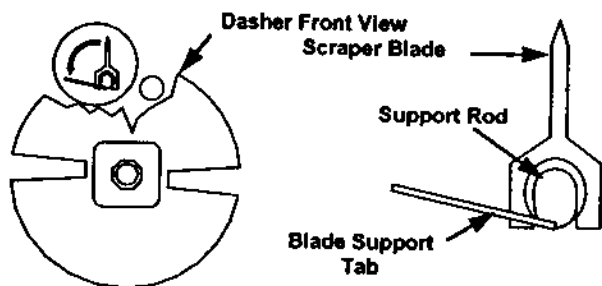
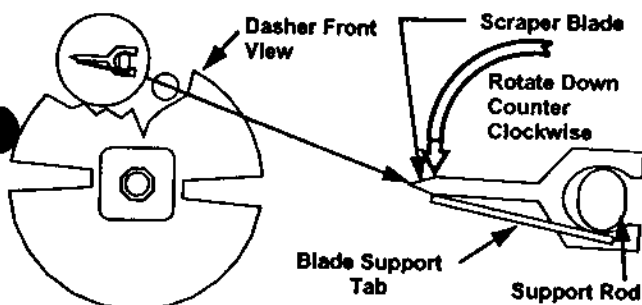

Fig. 26
Fig. 27
- f. Install the scraper blades onto the dasher assembly by holding the blades perpendicular to the tabs (Fig. 26) and then snapping them over the flat area of the support rod. Then rotate the blades downward in a counterclockwise direction as viewed from the front of the dasher (Fig. 27). **BE CERTAIN THAT THE SCRAPER BLADES REST UPON THE DASHER TABS ON ALL DASHERS EXCEPT HIGH CAPACITY MACHINE DASHERS. THOSE BLADES REST UPON PINS.**